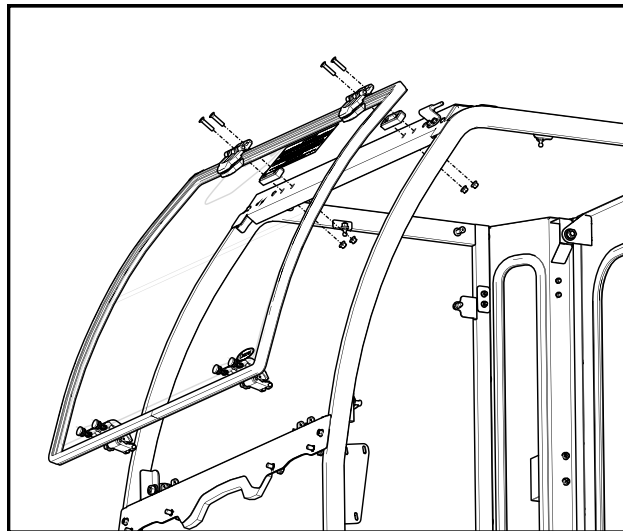

Fig. 13.1 (Windshield Installation)
**13.1** Install the windshield to the windshield support using (1) plastic spacer block underneath each upper plastic hinge to space it off the windshield support. Snug fasteners, but **do not tighten fully**. See Fig. 13.1.